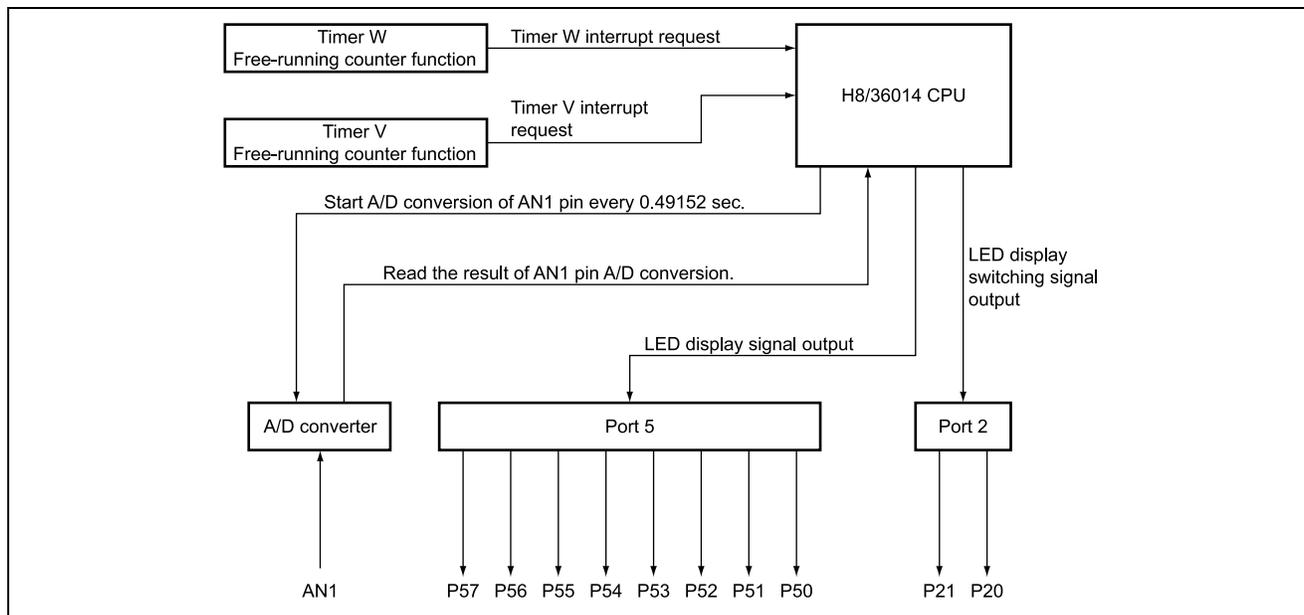

Figure 2.1 Block Diagram of the Functions in Use
1. Figure 2.1 shows the functions used in the H8/36014 for this sample task, while table 2.1 indicates the allocation of functions.